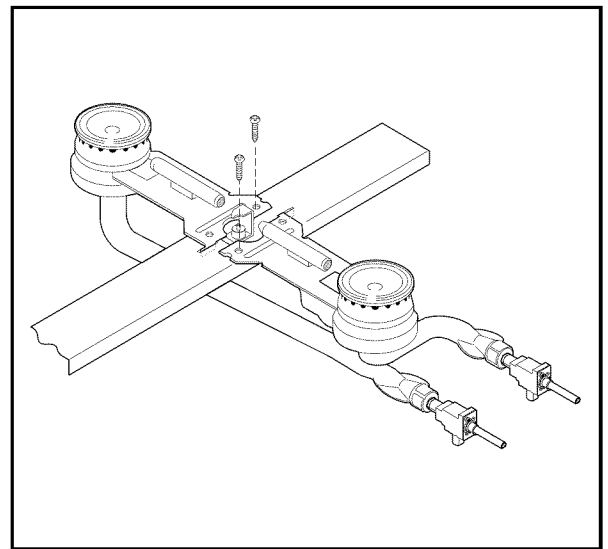

Fig. 2
1. Remove surface burner mounting screws with a Phillips-head screwdriver. See Fig. 2 for screw locations.